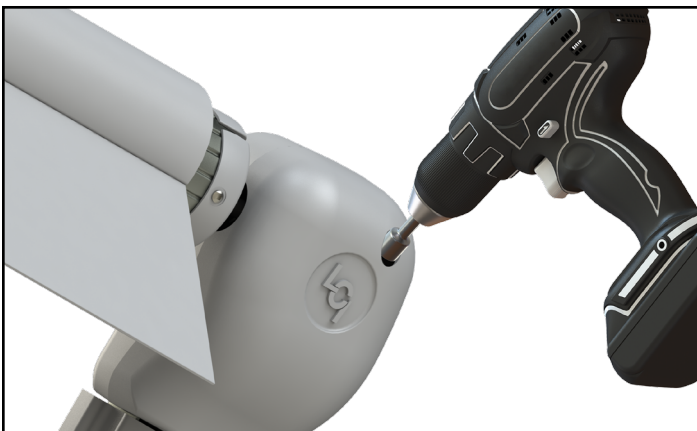

Fig.30
2. Using a $\frac{7}{16}$ " socket and a cordless or electric drill or screw gun, spin the manual override nut counterclockwise to retract the awning (**Fig.30**).